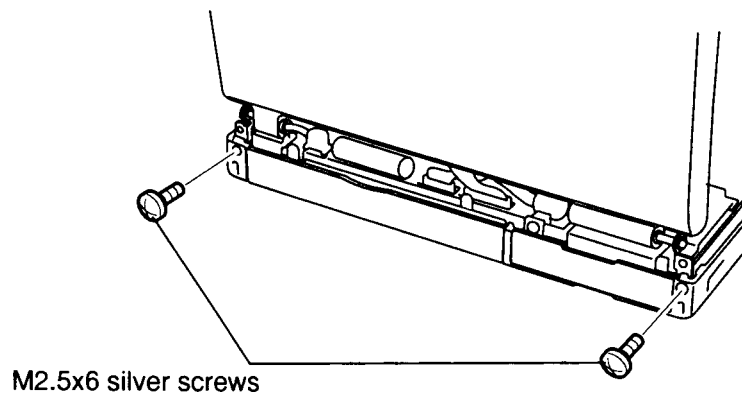

Figure 4-23 Removing the screws (back of computer) securing the display assembly
6. Turn the computer around and remove the **two M2.5x6 silver screws** on the back of the computer securing the display assembly (Figure 4-23).
3. Turn the computer around and secure the **two M2.5x6 silver screws** on the back (Figure 4-23).